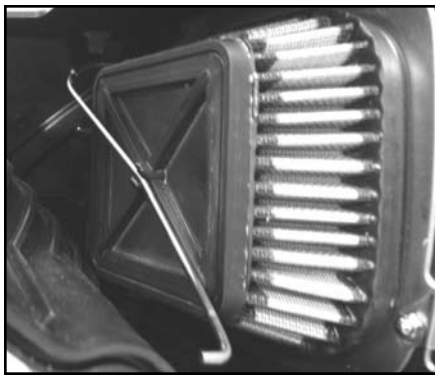

Fig. 2
4. Install the air filter retainer into the slot of the K&N Filtercharger®. (Fig. 2)